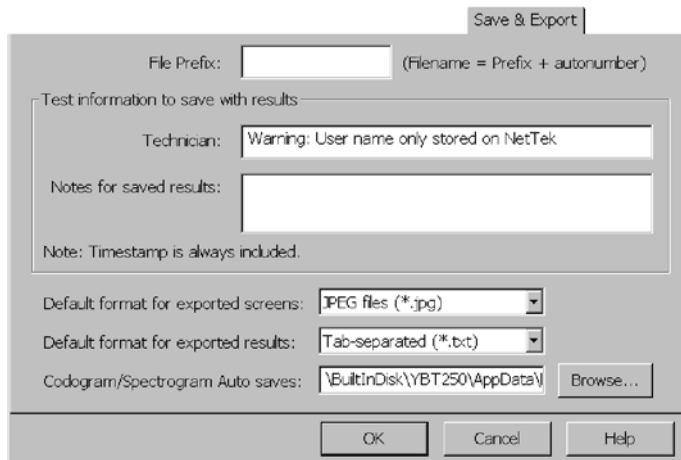

Figure 2-17: The Save & Export tab
2. Tap the **Save & Export** tab. See Figure 2-17.